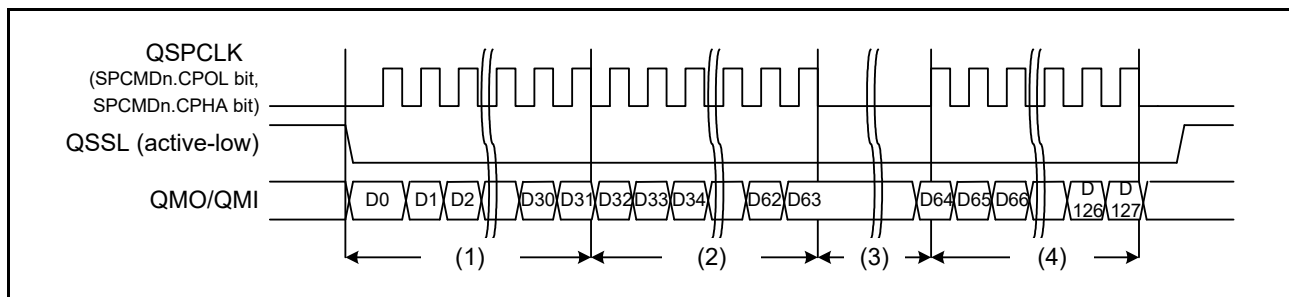

Figure 45.13 Burst Transfer Example in which Total Transfer Data Amount is 128 Bits (Single-SPI Mode)
One method uses the SPCMDn.SPB[3:0] bits ($n = 0$ to 3) and the SPBMULn register. Setting SPCMDn.SPB[3:0] bits to select 8, 16, or 32 bits and setting the SPBMULn register to select 1 through 4,294,967,296 allows the specified length of data to be continuously transferred for the specified times, where the length is specified by SPCMDn.SPB[3:0] bits and the number of times is specified by the SPBMULn register. However, if the transmit buffer (SPTXB) becomes empty during transfer, or the receive buffer (SPRXB) has no longer a space enough to receive the specified length of data defined by SPCMDn.SPB[3:0] bits, the clock is stopped until transfer is resumed. Figure 45.13 shows a burst transfer example in which SPCMDn.SPB[3:0] bits are set to select 32 bits and the SPBMULn register to select four times thus specifying 128 bits as a total transfer data amount. The following describes operations (1) to (4) in the figure.
- (1) First 32-bit data transfer
- (2) Second 32-bit data transfer
- (3) When the transmit buffer becomes empty or the receive buffer has no longer a space for 32 or more bits, the clock is stopped. Here, the QMO continues outputting the previous value. When data is written to the transmit buffer or an enough space is created in the receive buffer, the clock output is resumed to restart transfer.
- (4) Third and fourth 32-bit data transfer